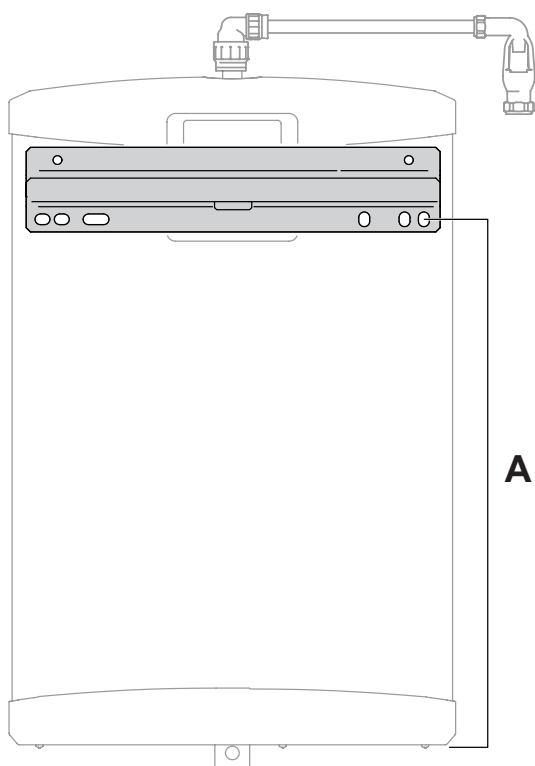

Figure 10: Fixing bracket dimension to bottom of unit
- ▶ Mark the position of the centre line for the wall bracket mounting holes and mark the centre points for the fixings, see figure 10 for position.